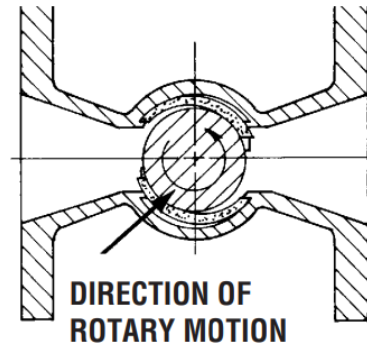

Figure 8.8.2
- c.** A special locking plug containing retractable or removable arms (see Figure 8.8.2) is lowered into the body with the arms retracted or removed. The arms are then extended or installed, and the plug is rotated counterclockwise until the opposite side port openings in the sleeve are locked behind the body ribs. In the 1", 1.5", and 2" sizes, a bar may be substituted for the locking plug.